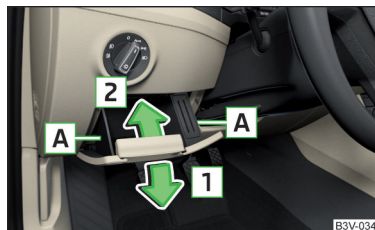

Fig. 354
- Hold the stacker laterally in the region [A] and open by pulling in the direction of arrow [1] (A greater force is required to open) » Fig. 354.